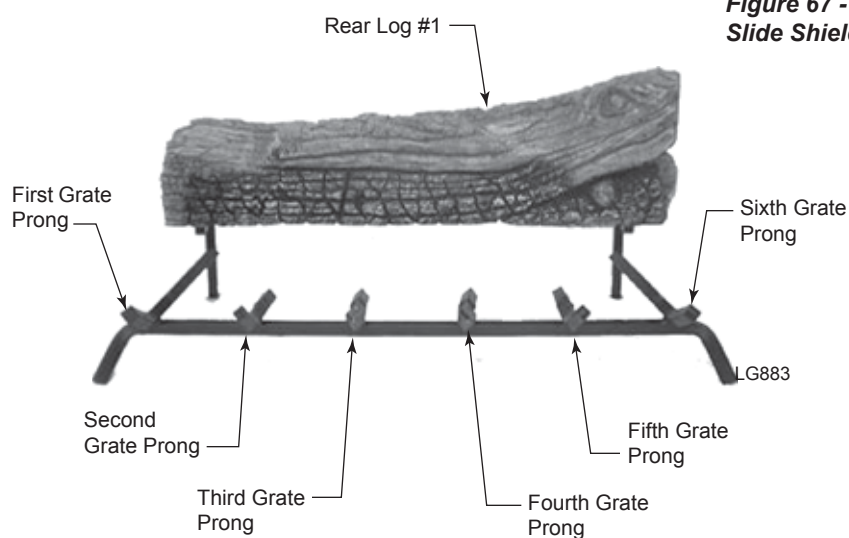

**Figure 68 -
2. Place Back Log #1 on back of grate. *Figure 68*